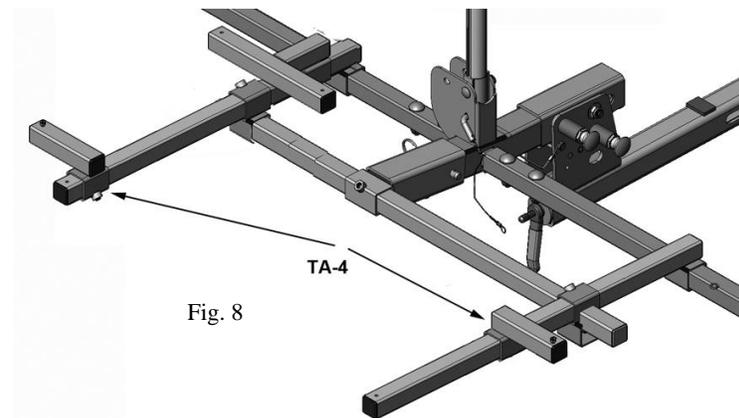

Fig. 8
Step 7: Install TA-4 on both TA-2 tubes as shown. (Fig. 8)